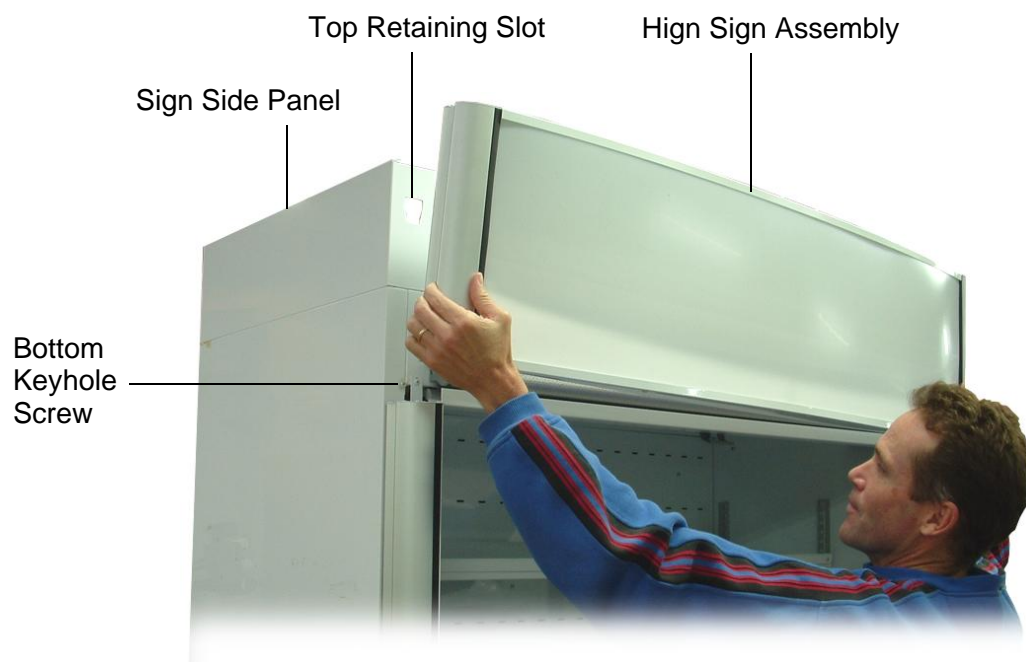

Figure 4: Attaching the High Sign Assembly
4. Attach the high sign assembly onto the cabinet by clipping the top of the sign into the retaining slots at the top of both side panels and then locating the bottom of the sign over both the bottom keyhole screws (see Figure 4 below).